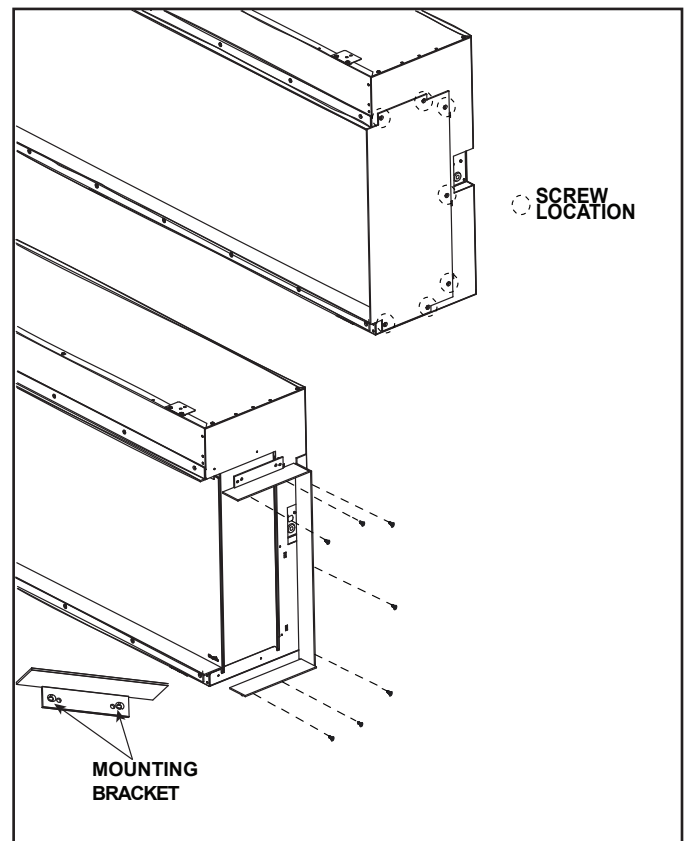

Figure 4.3 Plate Removal and Trim Install
1. To install the appropriate trim for the desired configuration, if applicable, remove the flat side cover plate from the side of the appliance by removing seven screws. See Figure 4.3.
2. Install the desired trim, 1/2-inch (13 mm) or 2-inch (51 mm), by securing the top and bottom pieces to the side with two screws each that were removed from the flat side cover plate. Attach the vertical trim with three screws. **Note:** The bottom trim has 4 holes. See Figure 4.3.